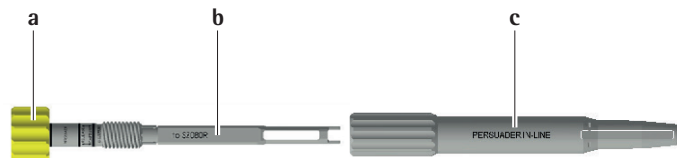

Fig. 64
- ▶ Turn the golden knob a counter-clockwise until the persuasion shaft b is disengaged from the main body c. Do not remove the golden knob a from the persuasion shaft b, see Fig. 64.